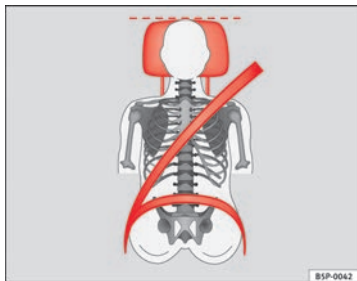
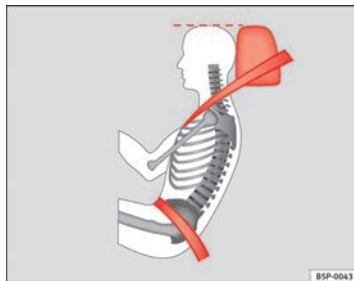

Fig. 89 Front view: head restraints and seat belts correctly adjusted
Fig. 90 Side view: head restraints and seat belts correctly adjusted
- Adjust the head restraint so that the top is at the same level as the top of your head or as close as possible to the same level as the top of your head, at least at eye level ⇒ Fig. 89 and ⇒ Fig. 90.